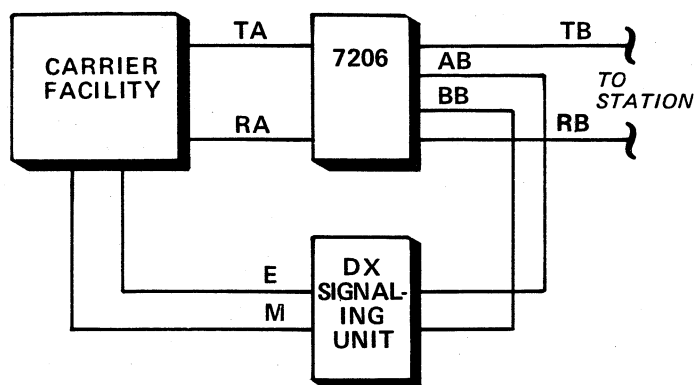
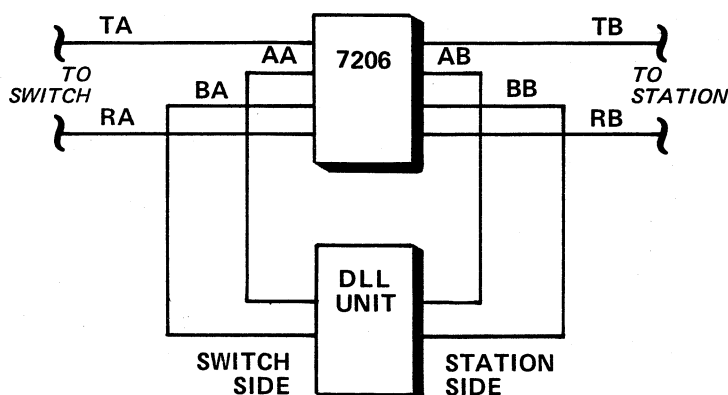
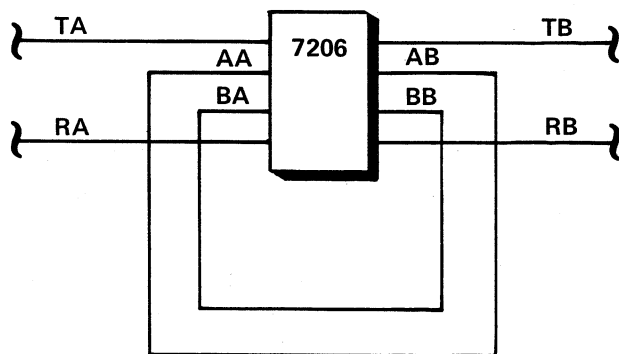

figure 2. A and B-lead routing and amplifier orientation for DX-signaling applications
figure 3. A and B-lead routing and amplifier orientation when 7206 is used with associated DLL
figure 4. Through signaling configuration
**2.08** Figures 2 through 4 show A-and-B lead wiring options and amplifier orientation for various signaling modes. In figure 2, A-and-B-lead routing and amplifier orientation for applications using extended-range E&M-lead (DX) signaling is shown. In DX signaling applications, orient the 7206 so that inductor *L1* (i.e., the B side of the module) faces the dc-signaling side and route the 7206's A and B leads as shown in figure 2. Figure 3 shows A and B-lead routing in applications where the 7206 is used with an associated dial long line (DLL) unit; in these applications, the B-side of the 7206 should face the station equipment. In figure 4, the through-signaling configuration is shown; in these applications, orientation of the 7206 is immaterial. In all station applications, however, orient the A side of the 7206 toward the station end to permit use of the module's direction-detector sensitivity option (see paragraph 3.08).
3.05 A-and-B-lead derivation for various signaling modes is shown in figures 2 through 4 and described in paragraph 2.08. To summarize, in DX signaling applications, orient the Amplifier and route the 7206's A and B leads as shown in figure 2. Figure 3 shows signaling-lead arrangements and amplifier orientation for applications where the 7206 is used with a DLL. Figure 4 shows the through-signaling configuration. In all station applications, the A side of the 7206 faces the station and the B side faces the switching equipment.